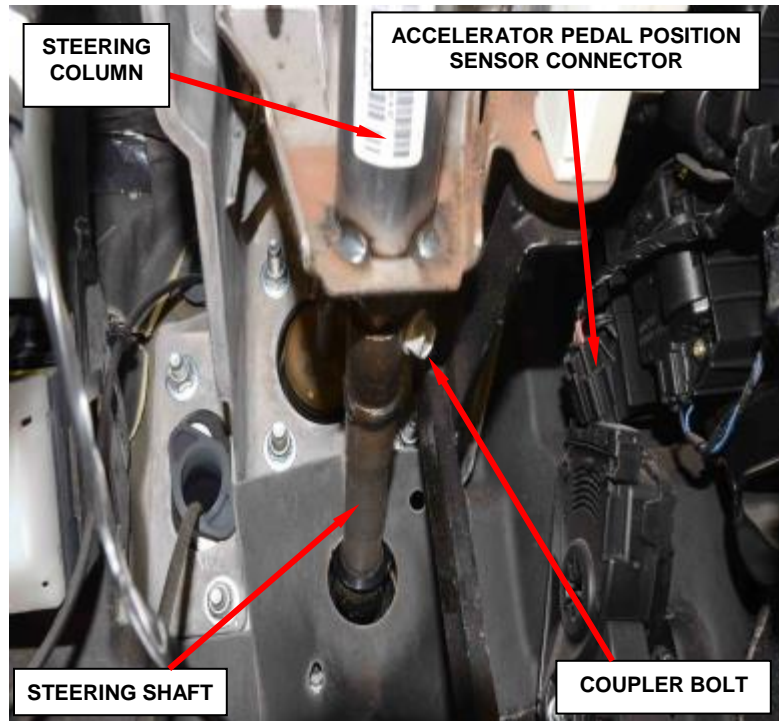

Figure 81 – Steering Shaft Coupler
- a. Disconnect the accelerator position sensor electrical connector (Figure 81).
14. Remove and **discard** the upper steering shaft coupler bolt from the column (Figure 81).